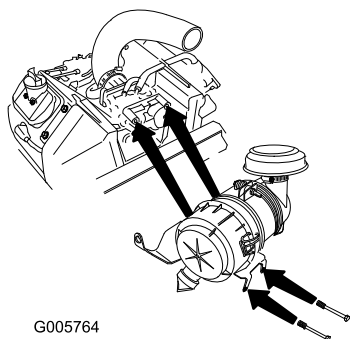

Figure 23
8. Install the long carburetor bolts into the air cleaner base and into the carburetor (Figure 23).